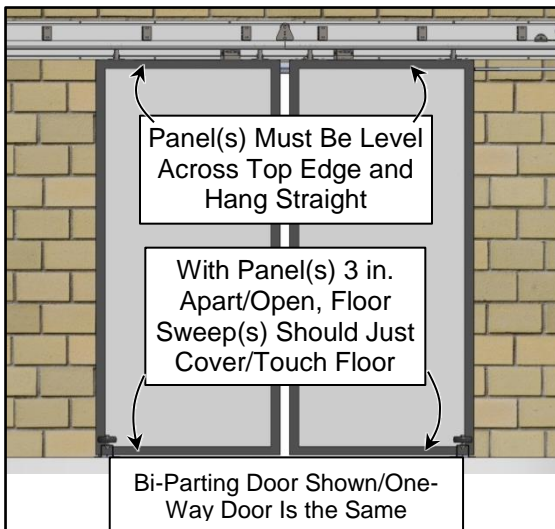

Figure 36
Door panel alignment is controlled by the position of the mounted head assembly and the door swivel hangers. If adjustment is necessary, the sides of each panel can be independently adjusted up or down by repositioning the trolley bolt along the swivel hanger barrel. (See Figures 36 and 37)
4. Check that each insulated door panel is level along its top edge. Bi-parting door panel edges must be at the same height across the top edge. If adjustment is necessary, the sides of either panel can be independently adjusted up or down by loosening the lock nut, repositioning the trolley bolt in the swivel hanger barrel, then re-tightening the lock nut after properly adjusted. (See Figures 36 and 37)